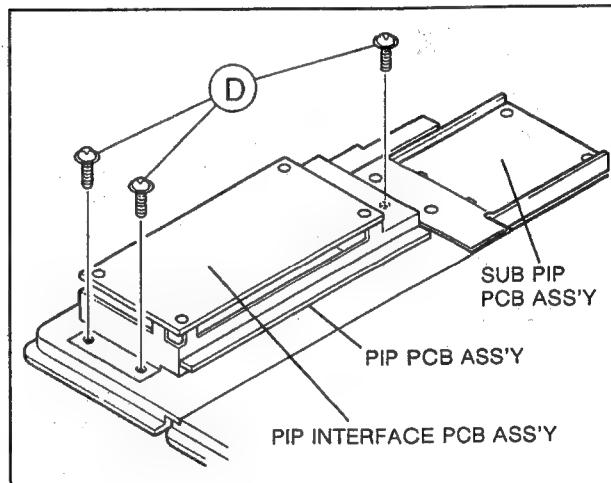

Fig. 5
1. Pull out the main chassis. Take out 3 screws ① indicated in Fig. 5, pull the unit outward and raise it to remove.